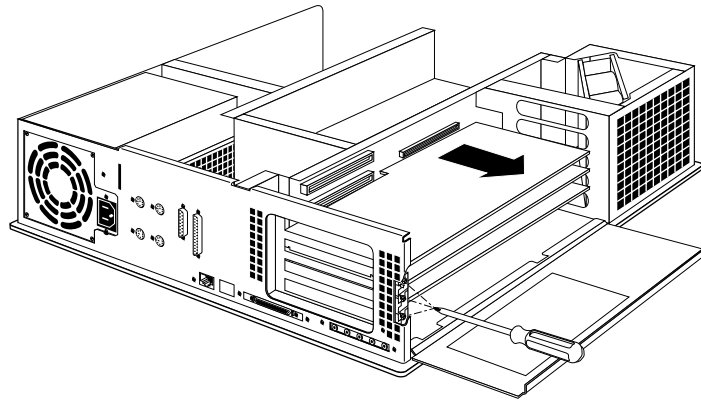

Figure 2-9 Removing the Extreme Board Set Screws
3. Remove the screws attaching it to the system slots as shown in Figure 2-9.